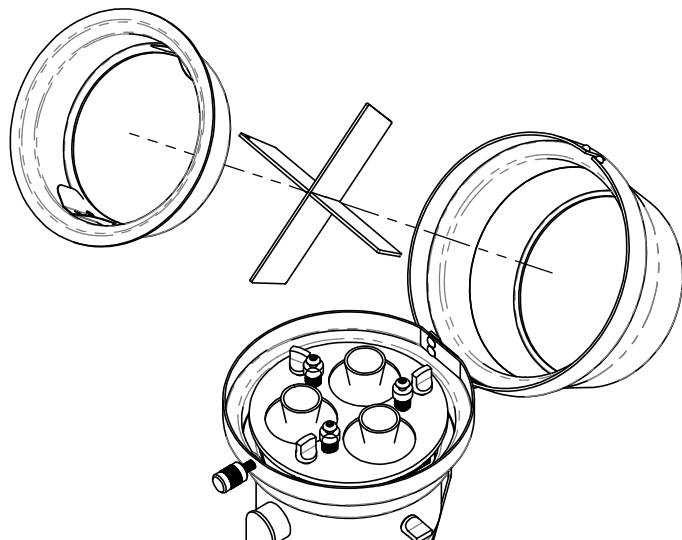

FIGURE 13. CROSS BAFFLE INSTALLATION SEQUENCE
4. PLACE CROSS BAFFLE STRAIGHT INTO FIXTURE FRONT (FIG. 13).
5. REINSERT THE ACCESSORY HOLDER AND ACCESSORIES AND CLOSE THE FRONT OF THE FIXTURE. (FIG. 13, 14).